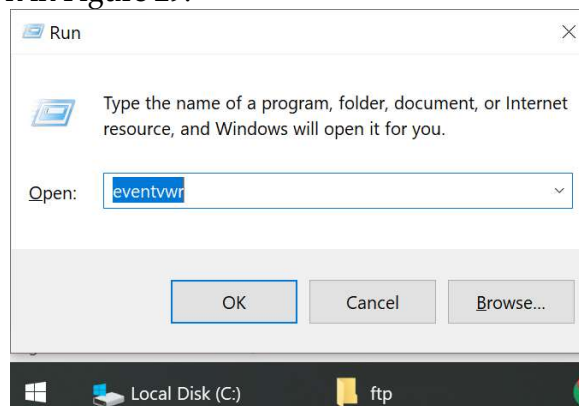
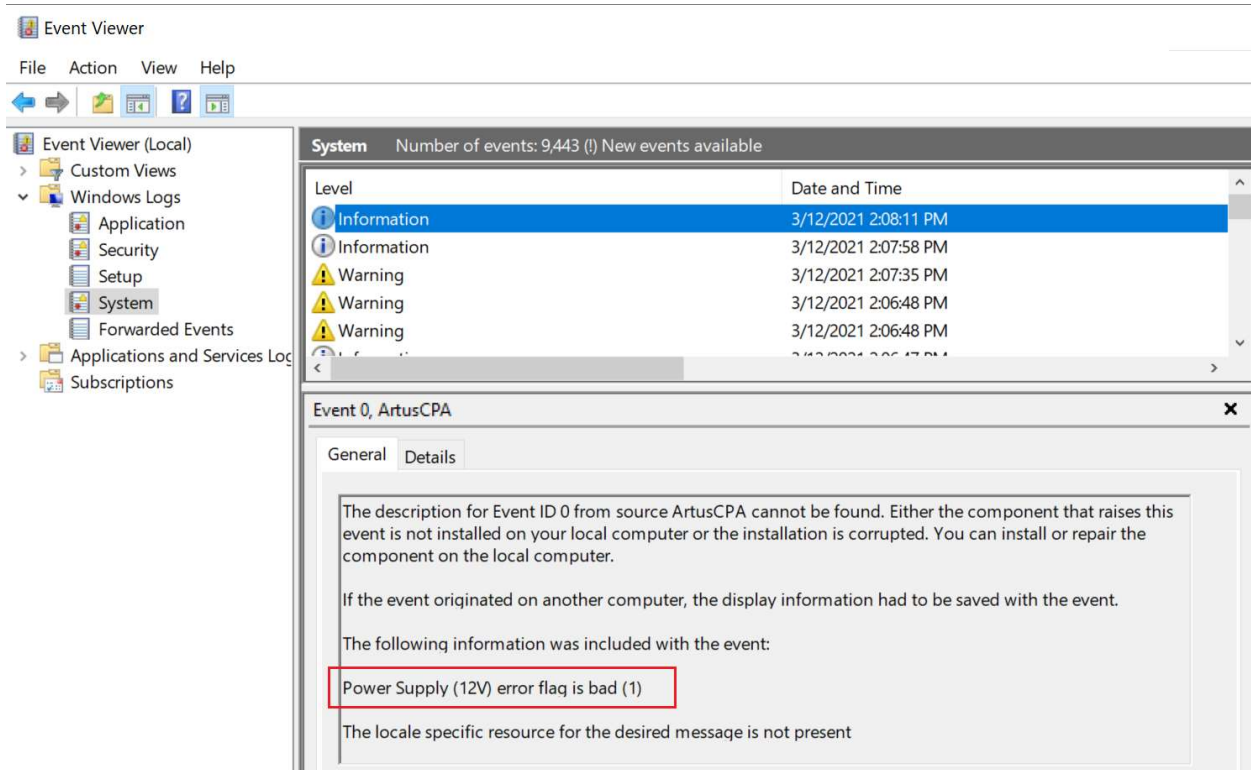

Figure 28: To open the Event viewer press Win-key + R, type eventvwr, and choose OK.
Figure 29: ArtUs power loss (bad power) event in Windows event viewer.
10. If the ArtUs-CPA device is visible in the Device Manager but not recognized by EW2 software, open the Windows Event Viewer (Figure 28) to find ArtUs device error messages as shown in Figure 29.